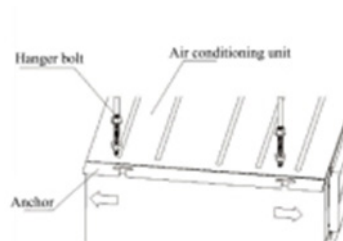

Figure 4: Installing the Hanger
2. Install the hanger on the indoor unit, as shown in Figure 4.